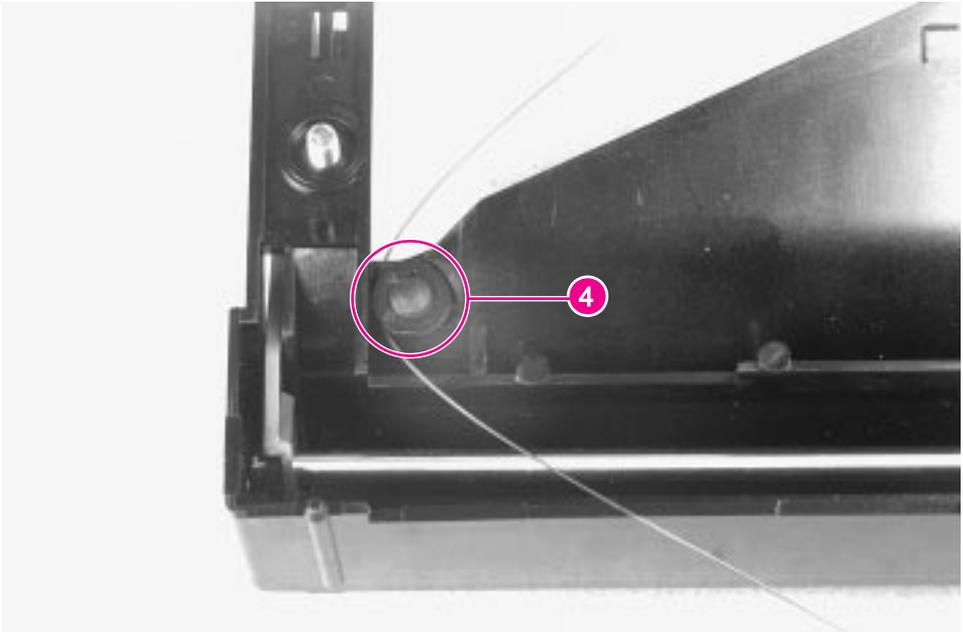

Figure 6-79 Mailbox with Stapler, Anti-Curl String Middle Connection
- 7 Remove the strings from the pulleys at the back of the Delivery Head by rotating the flat side of the pulley toward the outside of the frame (figure 6-79 on page 248, callout 4).